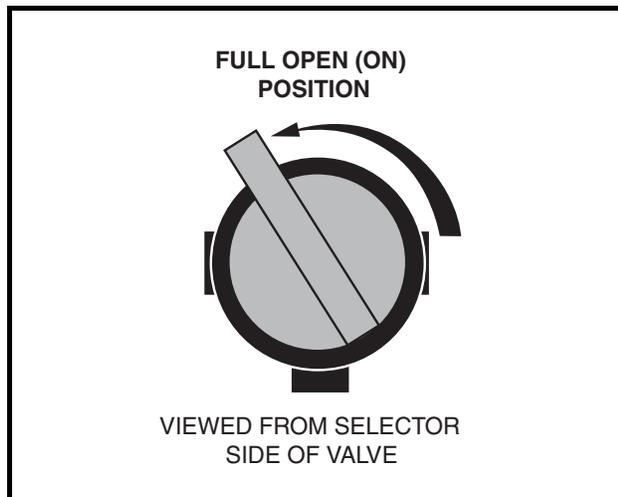
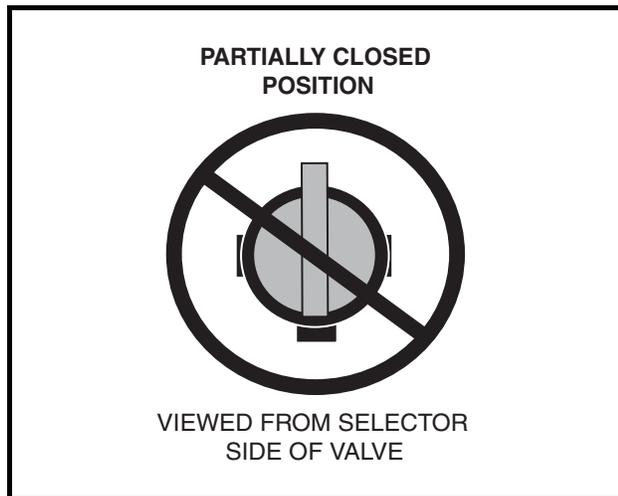

Figure 3-4 Fuel Shut-Off Valve – Open Position
Figure 3-6 Fuel Shut-Off Valve – Partially Closed Position
4. **Gasoline vehicles only:** Completely open the fuel shut-off valve (**Figure 3-4, Page 3-4**). Ensure that the valve is fully open. A partially closed fuel shut-off valve combined with the use of the choke can result in a fouled spark plug and engine failure (**Figure 3-6, Page 3-4**).